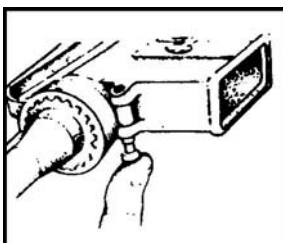

Figure 36. Engaging the receiver pivot pin.
- m. Engage the receiver pivot pin (Figure 36).